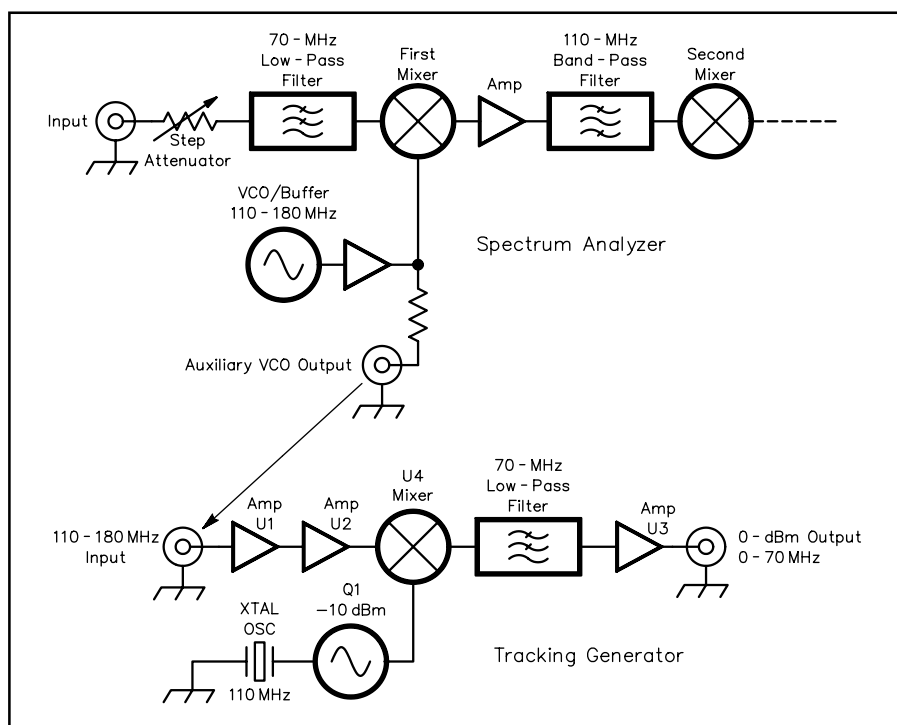

Figure 1—Block diagram showing functions within a spectrum analyzer front end and a tracking generator.
The upper portion of Figure 1 shows a partial block diagram of our spectrum analyzer described last year in *QST*.¹ Input signals within a 0- to 70-MHz range are upconverted to a 110-MHz IF, where they are filtered and processed. Swept conversion is obtained from a 110- to 180-MHz voltage-controlled oscillator (VCO.) Our spectrum analyzer VCO circuit includes an auxiliary output for use with a tracking generator—like this one.
A block diagram of our tracking generator is shown at the bottom of Figure 1. A pair of monolithic amplifiers (U1 and U2) boost the VCO sample to a level of +17 dBm, providing local oscillator (LO) injection for a high-level mixer, U4. Q1, a 110-MHz crystal-controlled oscillator provides 0 dBm RF injection for the mixer. The mixer's output is low-pass filtered and amplified by U3 to provide a 0-dBm output.